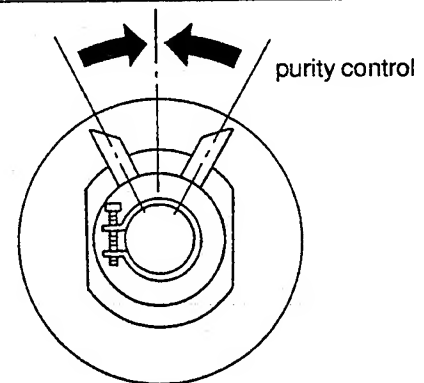

Fig.3-1
3. Loosen the deflection yoke mounting screw, and set the purity control to the center as shown in Fig.3-1.